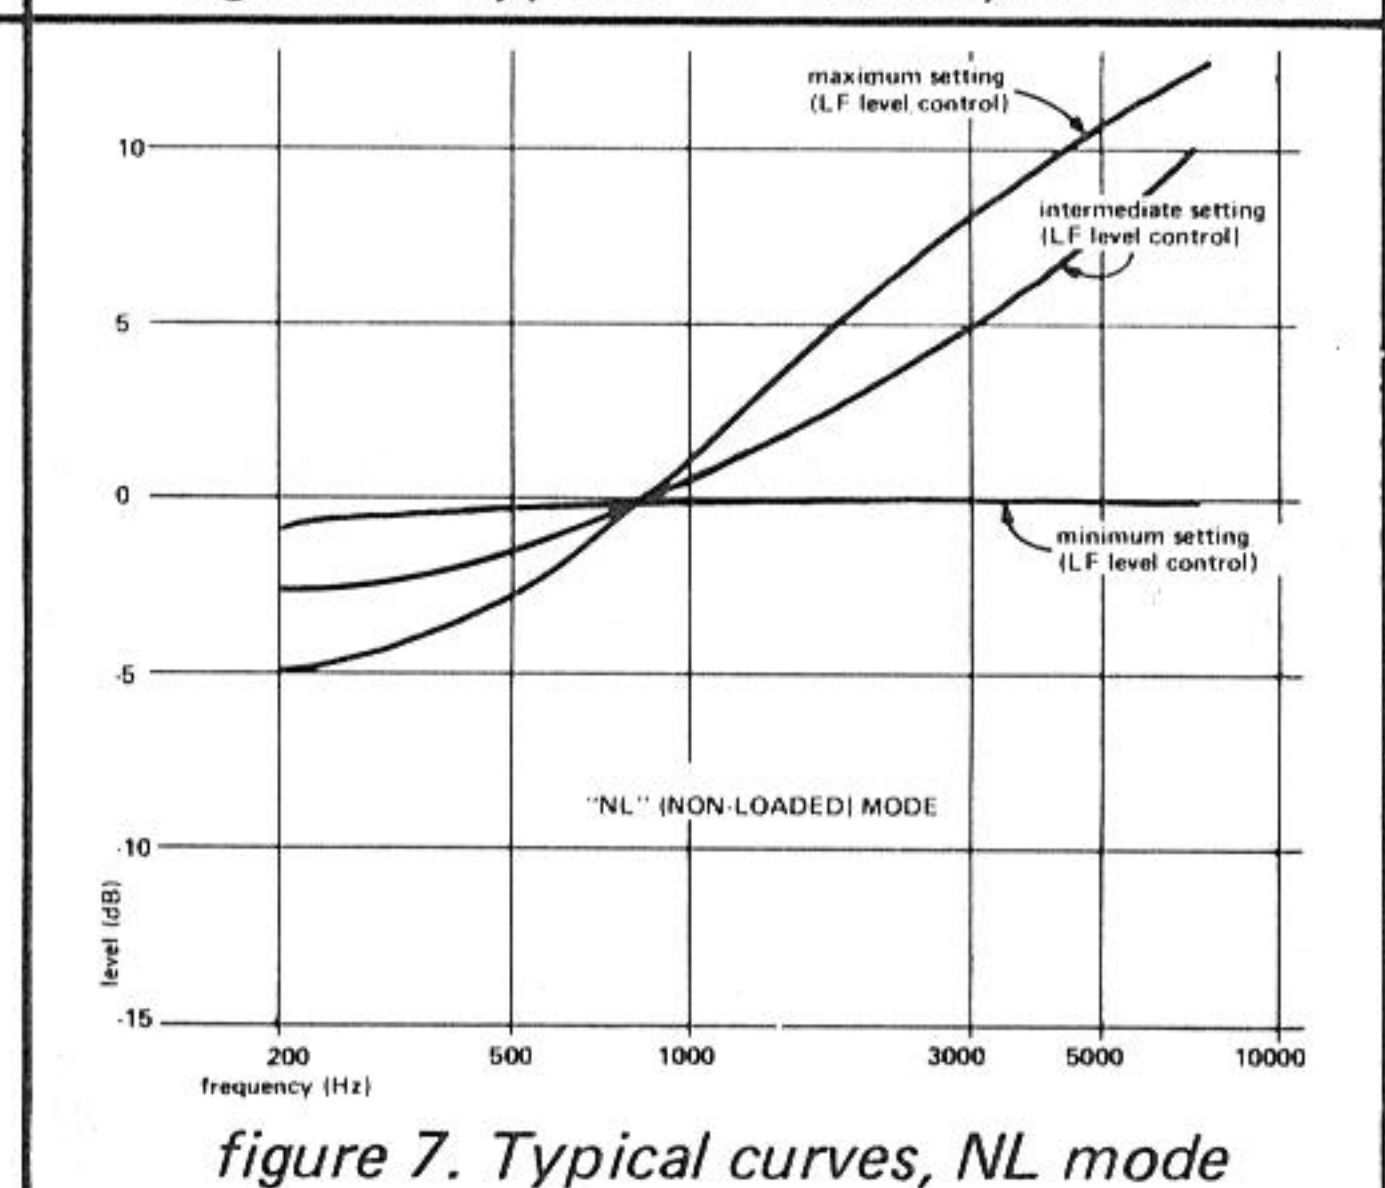

figure 7. Typical curves, *NL* mode
2.12 In each channel's *NL* (nonloaded cable) equalization mode, the high-frequency equalizer section is bypassed and, via the low-frequency control, the channel's frequency response is adjusted to complement that of various lengths and gauges of nonloaded cable. The equalization is, again, independent of gain setting and impedance matching options. Figure 7 shows typical response curves for this mode.
nominal 6dB/octave slope (see figure 7 for typical curves)